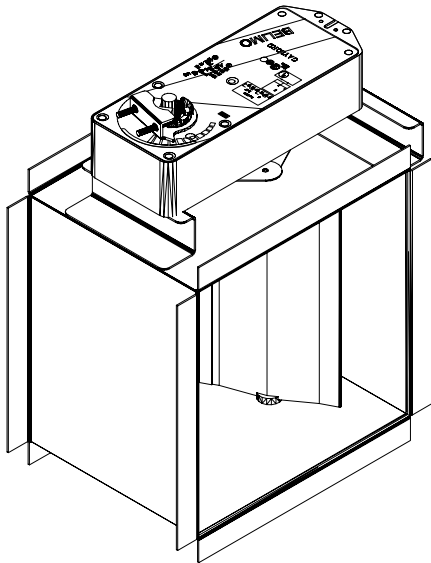
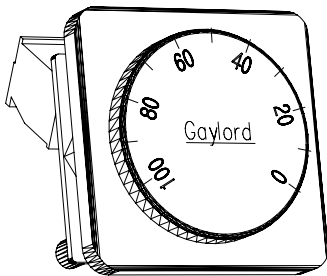

Figure 2-20-1
Figure 2-20-3
2. Model GEBD (Gaylord Electric Balancing Damper) is an electrically adjusted balancing damper (Refer to figure 2-20-1). Adjustment is made by use of a potentiometer, one for each damper, mounted in a junction box located in the roof of the Ventilator (Refer to figure 2-20-3). The GEBD is set up to automatically close upon shutting off the exhaust fan every night. This feature prevents conditioned air from exiting the building through the Ventilator. In the event of a power failure the damper will automatically open.
3. Model GFBD (Gaylord Fire / Balancing Damper) is a combination thermostatically activated fire damper/ electrically adjusted balancing damper. With this option one or more thermostats are mounted in the exhaust duct collar of the Ventilator (Refer to Figure 2-6-2). The thermostats are factory set for 250°F., and in the event of a fire when the thermostat(s) reach 250°F., the damper will close to prevent fire from extending into the ductwork and up to the exhaust fan. Adjustment for balancing of the system is made by use of a potentiometer, one for each damper, mounted in a junction box located in the roof of the Ventilator (Refer to figure 2-20-3). The GEBD is set up to automatically close upon shutting off the exhaust fan every night. This feature prevents conditioned air from exiting the building through the ventilator. In the event of a power failure the damper will automatically open.